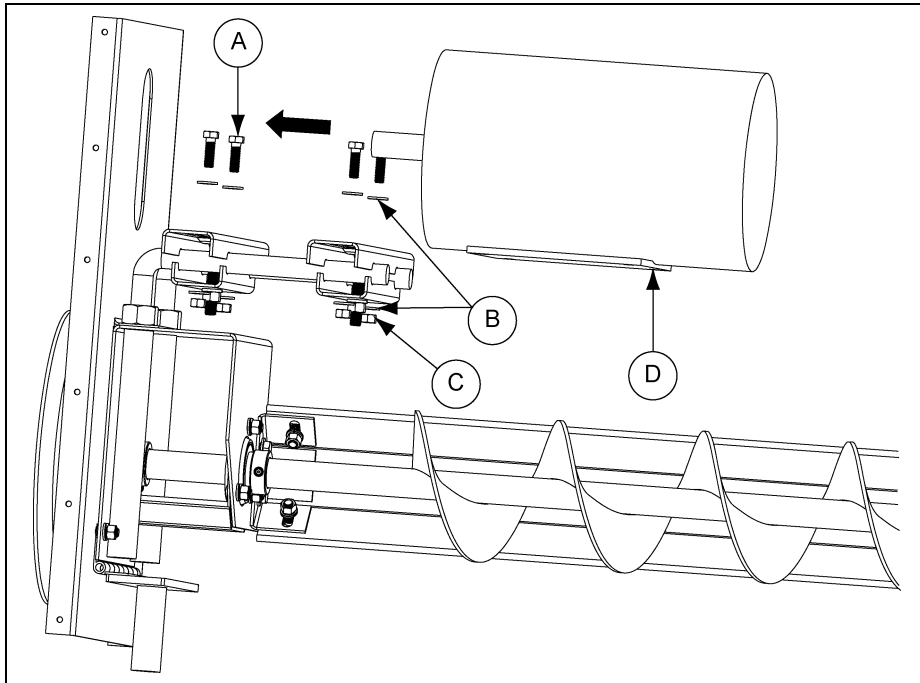

Figure 4R
Step 18: Fit motor. (See Figure 4R.)